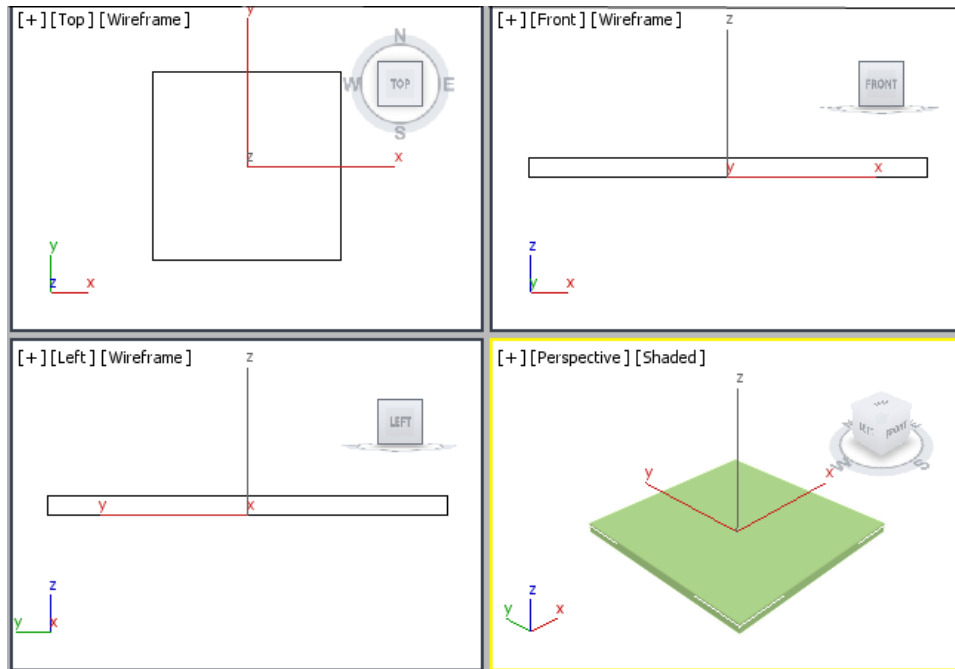

Figure 5-3 The *Top* extruded by 10 units
3. In the **Parameters** rollout, set the value **10** in the **Amount** spinner; *Top* is extruded by 10 units, as shown in Figure 5-3.